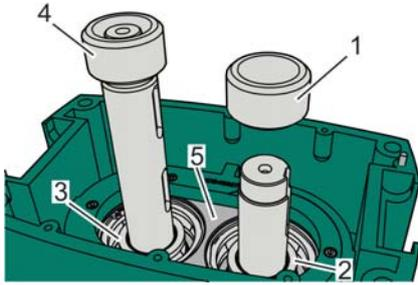

Fig. 137: Positioning the distance rings on the bearings, example
12. ▶ Position the distance rings (Fig. 137/1, 4) on the inner rings of the bearings (Fig. 137/2, 3) of the upper bearing housing (Fig. 137/5).